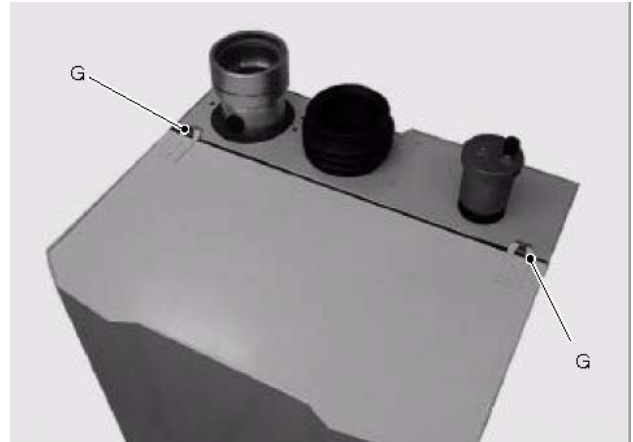

Fig 4
2. Pull the bottom of the cover until the control panel is completely out of the cover, then lift the cover and free it from the hooks G (fig 4) placed on the top of the boiler.